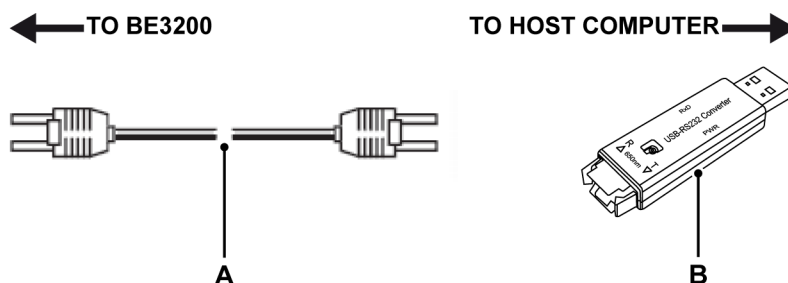

Figure 4.3: USB to Optical Serial Communication Link
- B** Serial communication link. For details refer to Figure 4.3 "USB to Optical Serial Communication Link" on page 40.